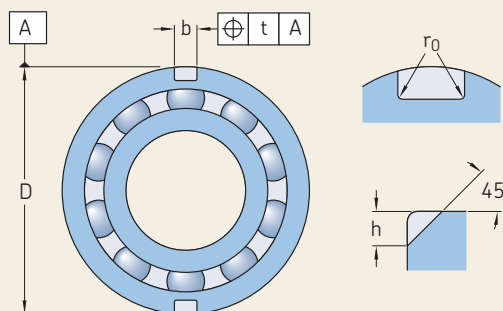

Fig. 9
- threaded holes in the rings to accommodate eye bolts to ease lifting (fig. 9)